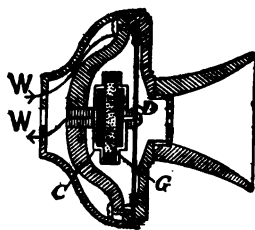

FIG. 139. — Carbon transmitter.
**Carbon transmitter.** The carbon transmitter is the form most commonly used (figure 139).